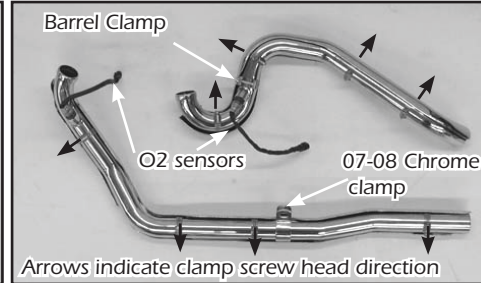

FIGURE 6
3. On the rear head pipe (D451FC)(supplied) slide the barrel bolt clamp (supplied) up the pipe so it sits on the straight section of pipe closest to the cylinder head. When pipe is installed, clamp nut should hang under head pipe and point towards the engine (Figure 6).